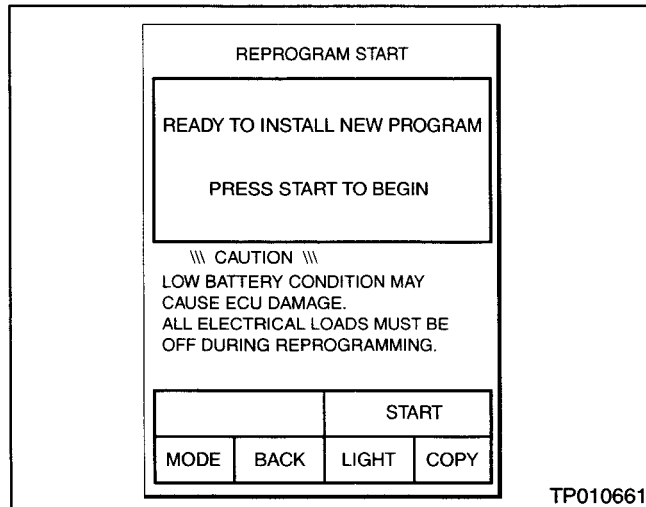

Figure 11
41. The "REPROGRAM START" window should appear (see Figure 11).